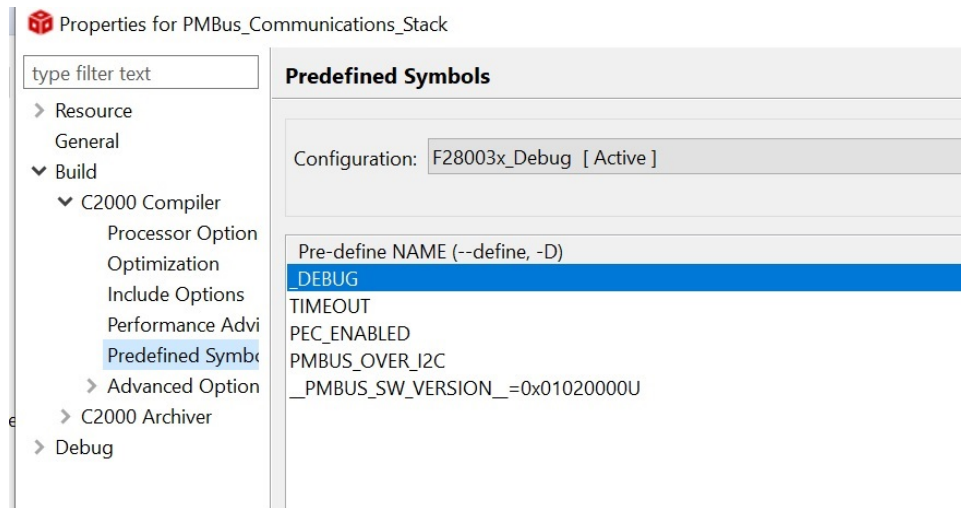

Figure 7.2: Adding predefined symbols
1. Import the PMBus over I2C Communication Stack Library CCS project from the pmbus_stack_over_i2c_project folder into CCS. Set the appropriate build configuration as Active depending on the device that you are using. Recompile the library. (Fig. 7.2)